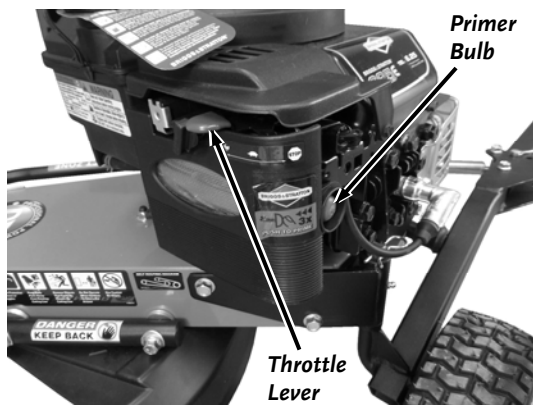

Figure 25
1. Push the Throttle Control Lever all the way to the left (Rabbit position) (**Figure 25**).